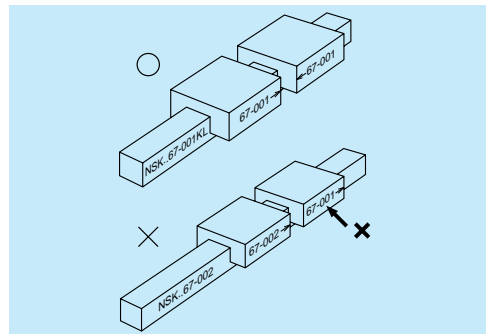

Fig. II-9-28
- In case that the ball slides had to be removed from the rail, confirm their serial numbers and the directions of arrows for re-assembly (Fig. II-9-28).